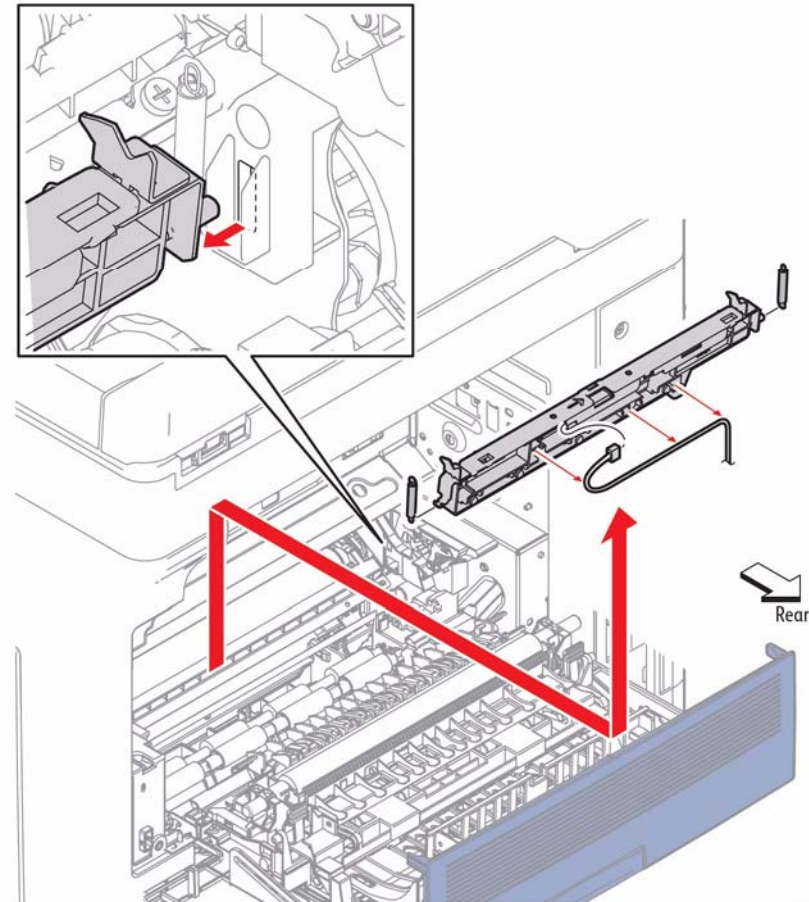

Figure 2 Remove the CTD Sensor Assembly
3. Referring to Figure 2, raise the right side of the CTD Sensor Assembly, pull the shaft on the left side out of the hole on the guide, and then raise the CTD Sensor Assembly.
6. Refer to Figure 2 to remove the shaft on the left side of the CTD Sensor Assembly from the CTD Spring.